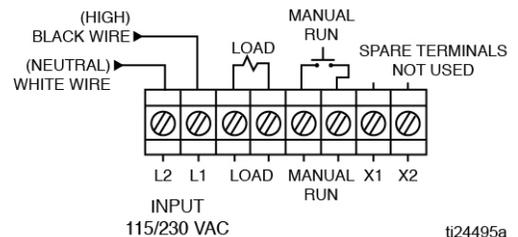

FIG. 3
4. Connect input power leads to input terminals 110/220 VAC, 50/60 HZ (FIG. 3)
5. Connect load leads to load terminals, 100 VAC, 50/60 HZ, 3 Amp max (FIG. 3).
6. Connect remote manual run if desired. Switch contacts only. NOT 110 VAC (FIG. 3).